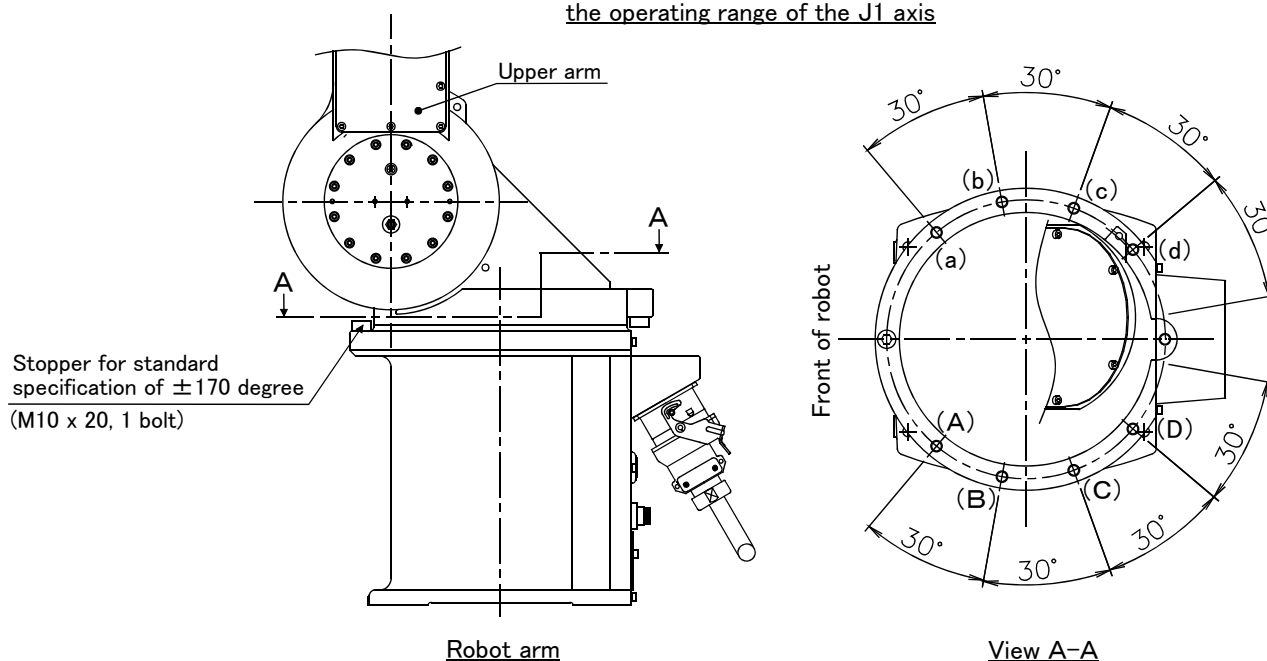

Fig.3-6 : Installation of operating range change option
Note) The insertion position given in the table indicates the insertion position for the operating range change stopper. (Refer to Fig. 3-6.)
- 1) Move the upper arm to the posture as shown in Fig. 3-6 by jog operation.
- 3) By referring to Table 3-2 and Fig. 3-6, insert the two stoppers (M10 x 20) used to change the movement range of J1 axis at the angular position to be changed, and fix securely by applying a clamping torque of 70 N · m to 86 N · m.
Do not remove the stopper for the standard specification of ± 170 degree shown in Fig. 3-6.